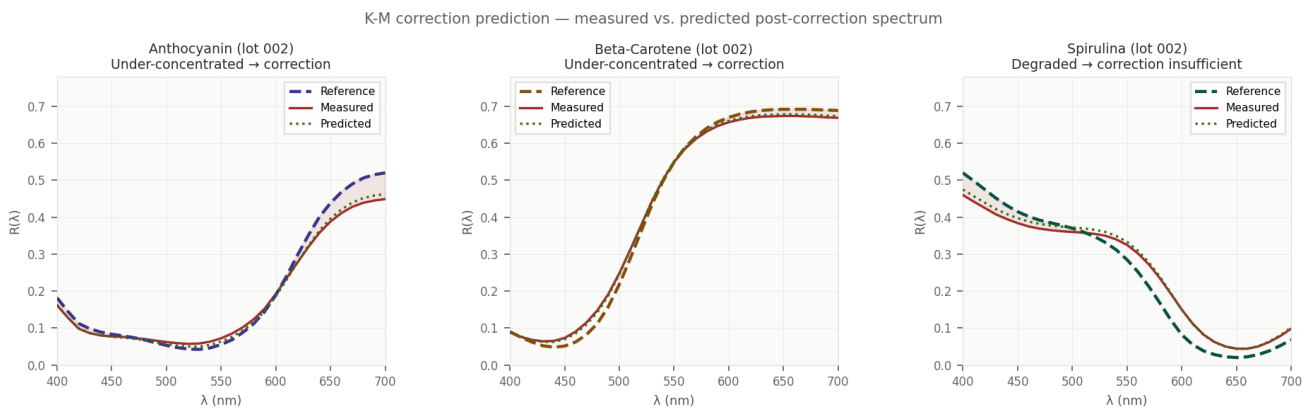

Figure 3 — K-M correction prediction overlays. Green dotted = predicted post-correction spectrum. SPR-002 shape collapse confirms degradation over dilution.
- **Phycocyanins (spirulina)** — The SPR-002 'shape collapse' in Figure 3 is not dilution — it is protein denaturation of the phycocyanin chromophore. A data-only approach would suggest adding more pigment; domain knowledge immediately routes the lot to cold-chain investigation.